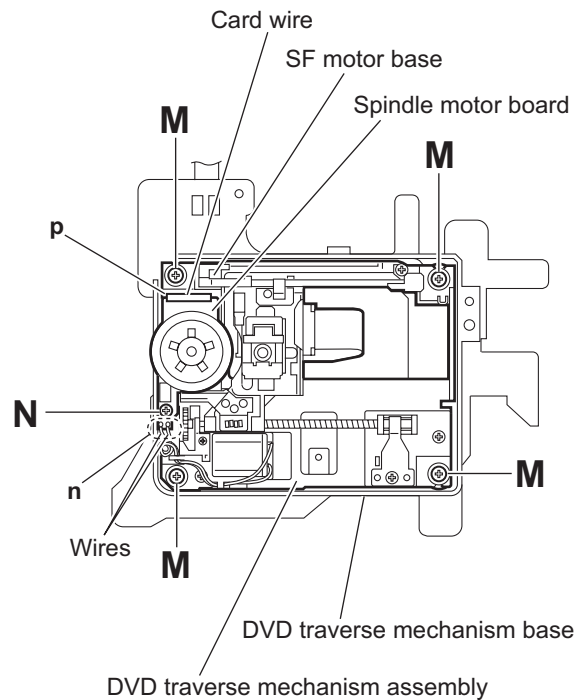

Fig.15
3.2.9 Removing the spindle motor board (See Figs.15 and 16)
- (1) From the top side of the DVD traverse mechanism assembly, remove the four screws **M** attaching the DVD traverse mechanism assembly to the DVD traverse mechanism base 3. (See Fig.15.)
- (2) Remove the wires from the soldered section **n** on the spindle motor board. (See Fig.15.)
- (3) Remove the screw **N** attaching the spindle motor board. (See Fig.15.)
When attaching the spindle motor board, let the card wire through the hole **p** on the SF motor base. (See Fig.15.)